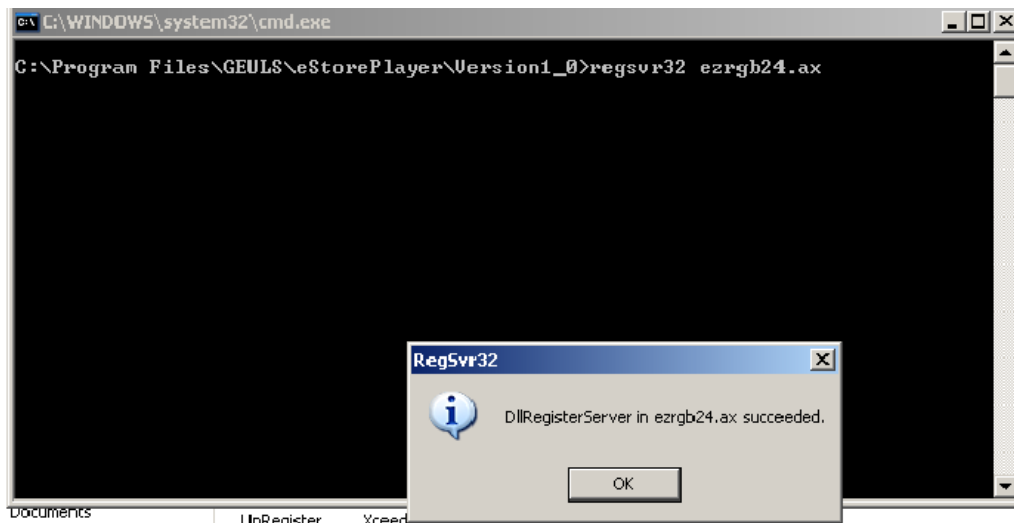
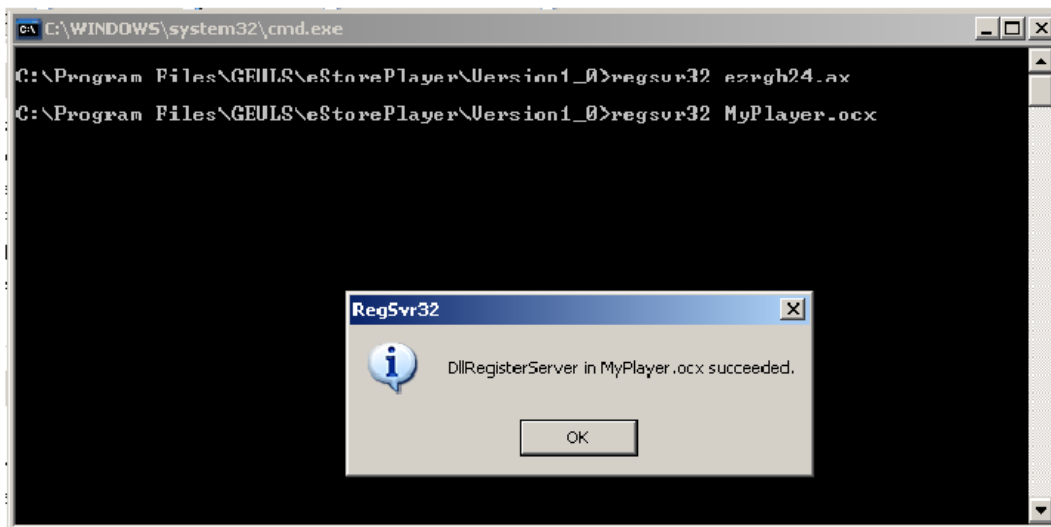

Figure 3-165 Uninstall Message 1
Figure 3-166 Uninstall Message 2
- 4.) If two messages are displayed one after another (shown in Figure 3-165 and Figure 3-166), click the **OK** button on each of them to close the message.